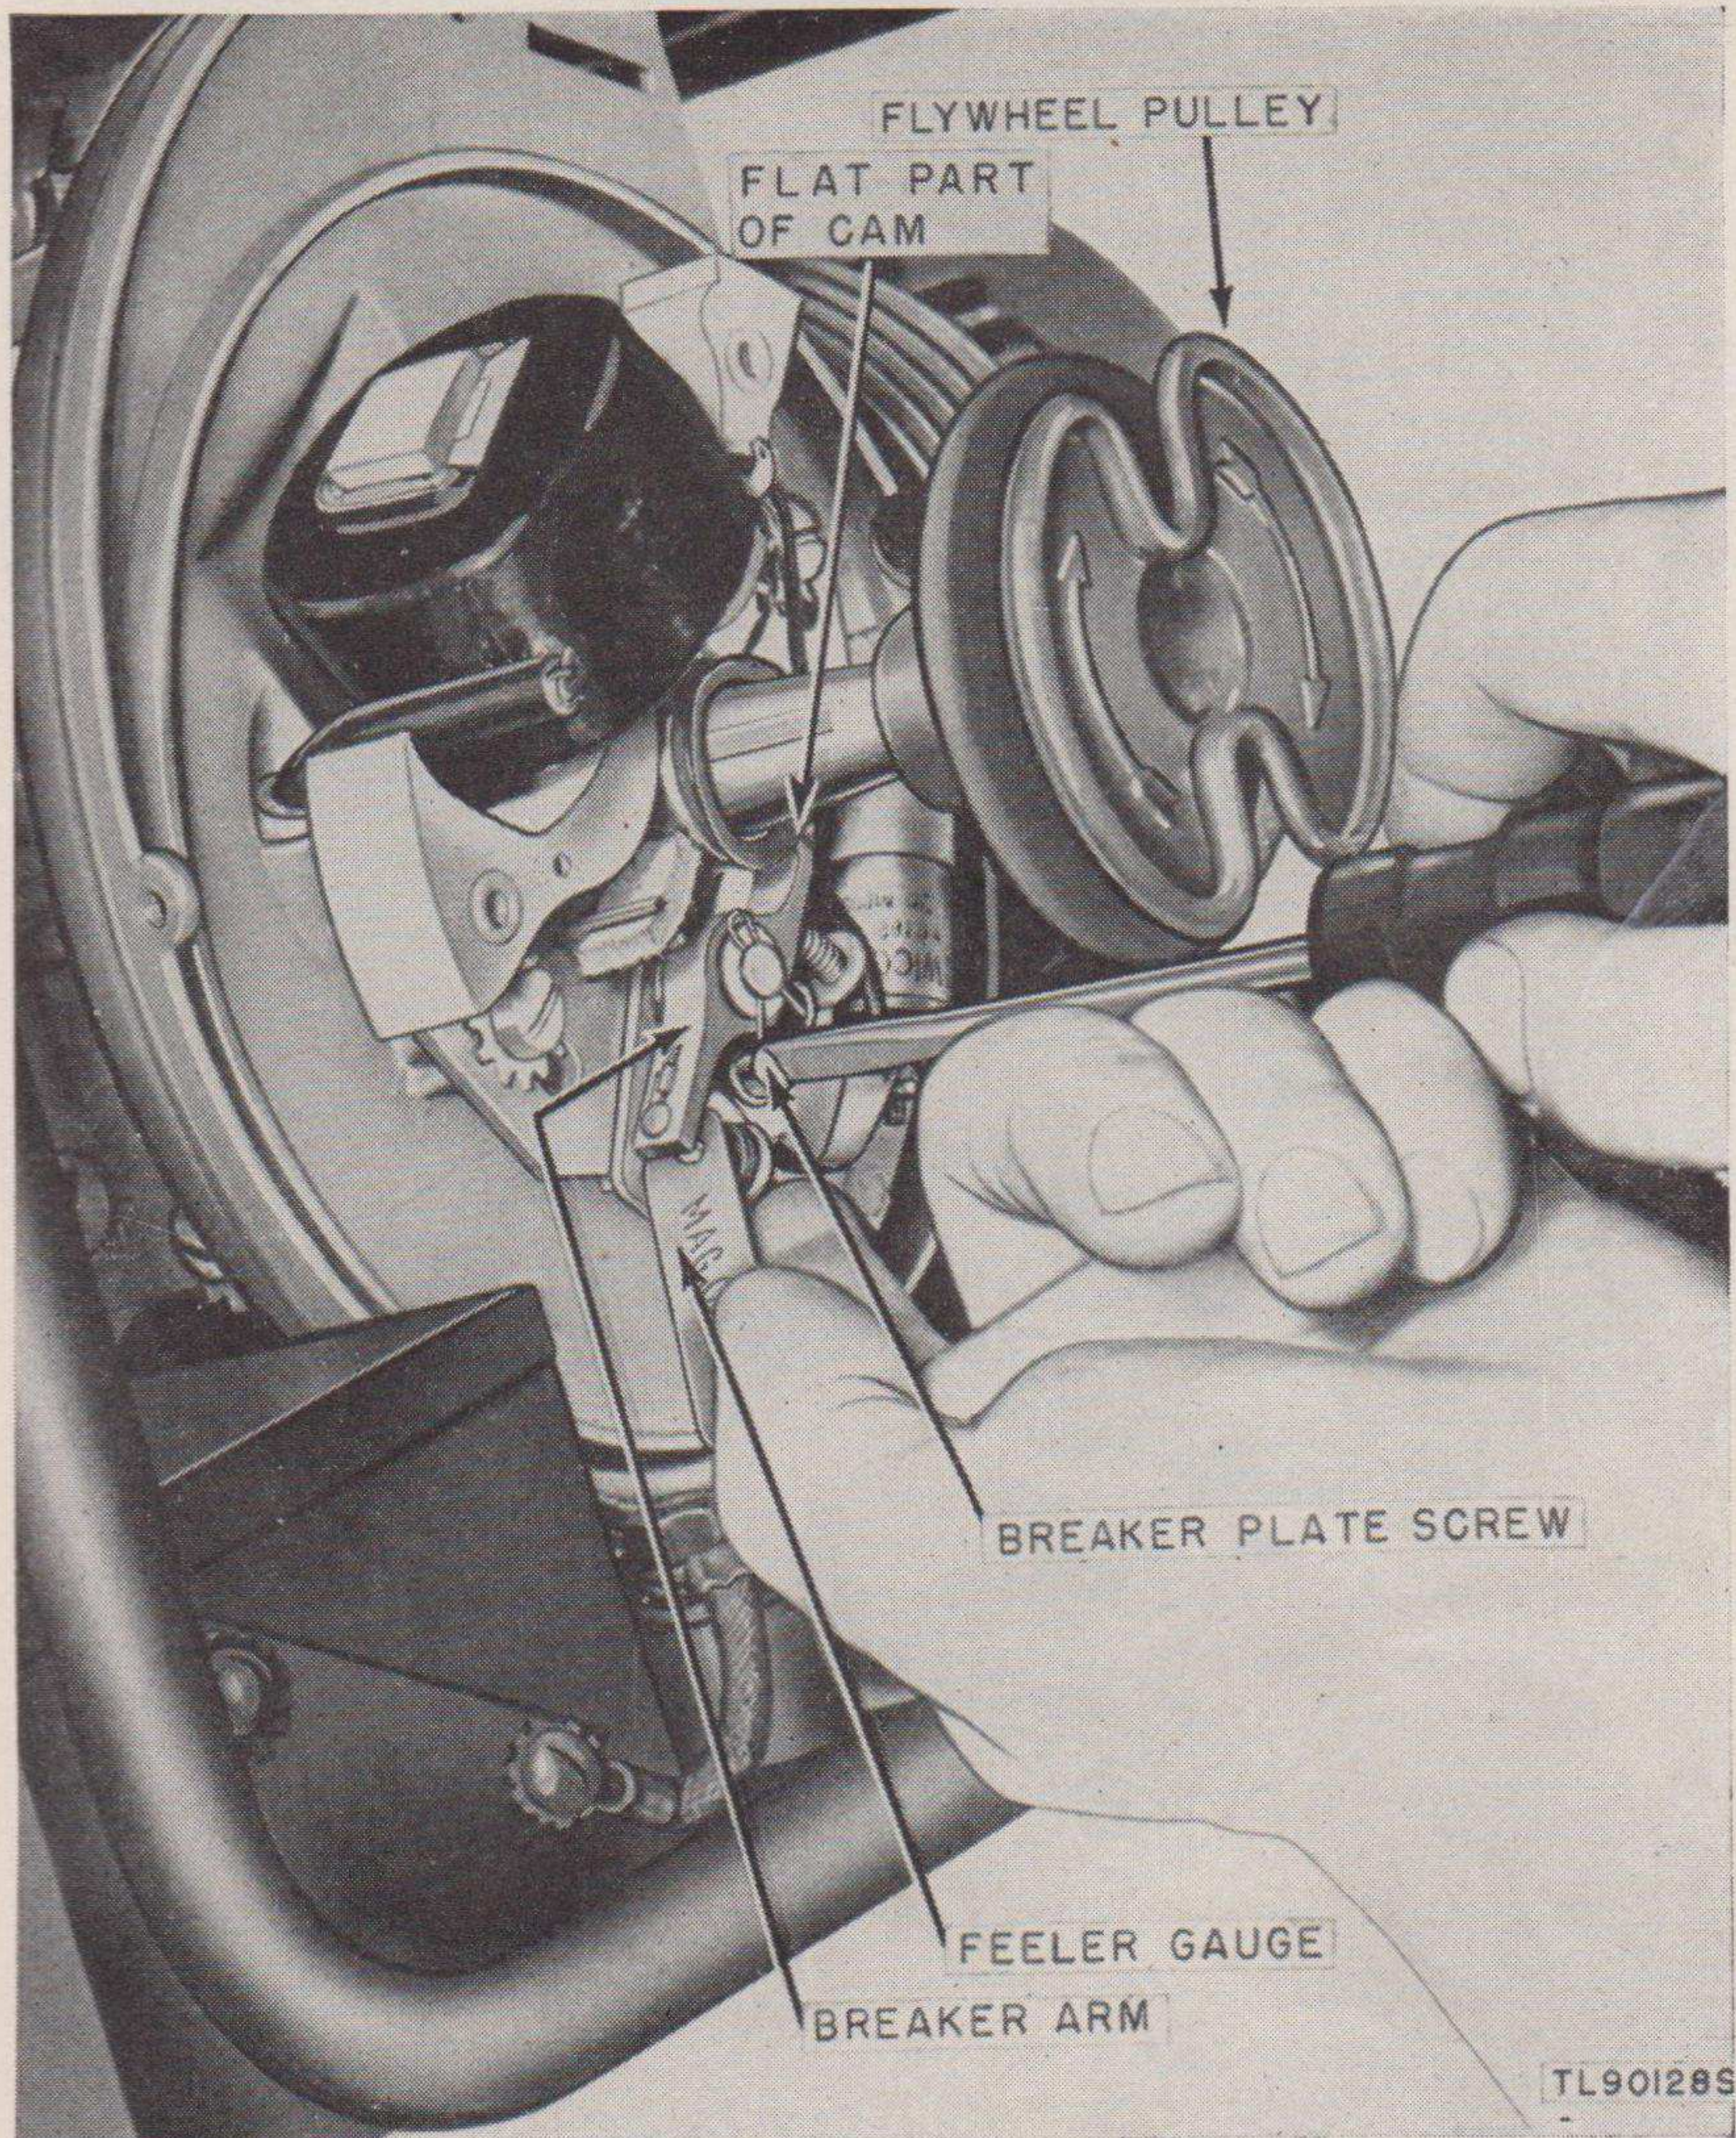

Figure 31. Adjusting magneto breaker points.
b. **BREAKER POINT ADJUSTMENT** (fig. 31). Adjust breaker points as follows:
- (1) Remove spark plug shield cap, spark plug, and shield body.
- (2) Remove flywheel housing and flywheel (par. 63b(2)(e)).